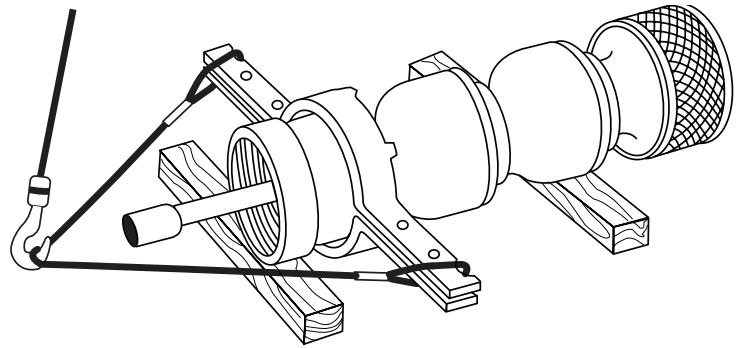

FIGURE 10 – Attaching Lifting Sling (Short Set)
3. Install a friction clamp to the upper end of the bowl assembly beneath a convenient shoulder. Attach a cable sling to the friction clamp far enough out on the ears to allow removal of the sling after the friction clamp is resting on the setting beams. Also, make sure that the sling is long enough for the load hook to clear the shaft when the bowl assembly is up righted. See FIGURES 10 and 11. Care must be taken to prevent the cable from wrapping around the shaft to prevent the bending of shaft or oil tubing.